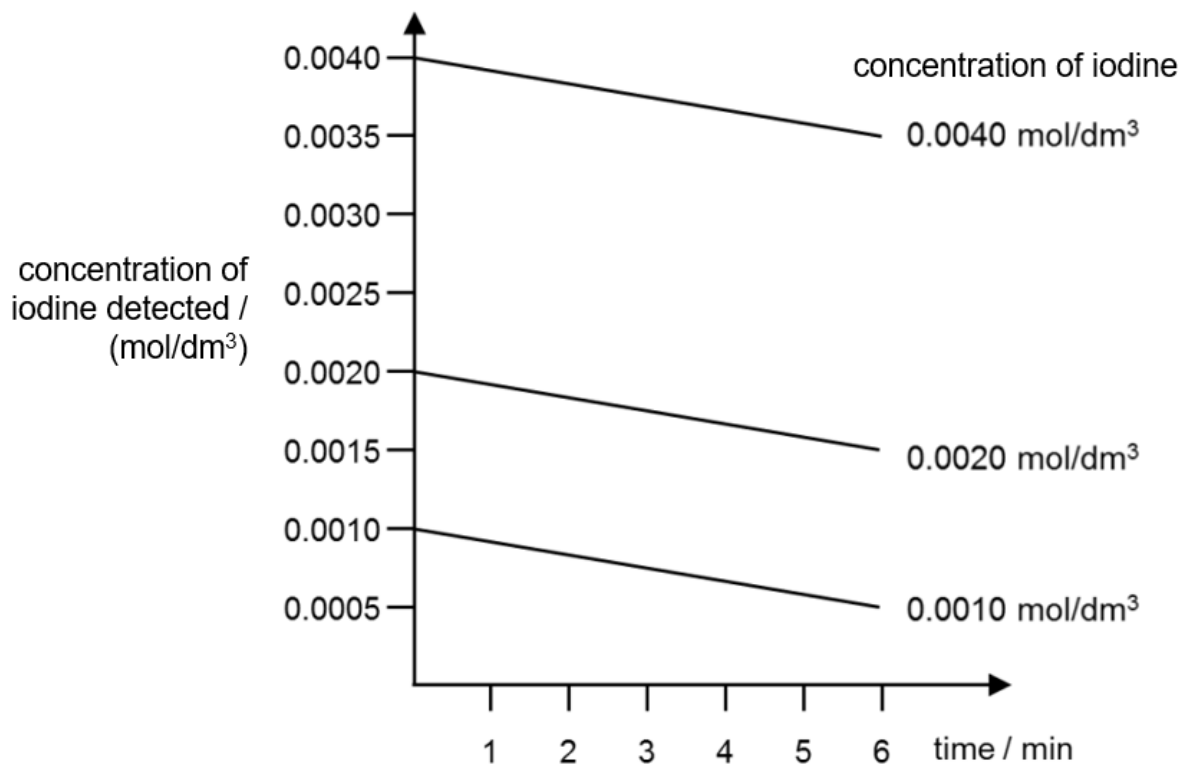

Fig. 9.3
In **experiment 2**, different concentrations of iodine were reacted with a fixed concentration of propanone. **Fig. 9.3** shows how the concentration of iodine changes with time using different concentrations of iodine.
- (ii) concentration of iodine. Support your answer using information from **Fig. 9.3**.